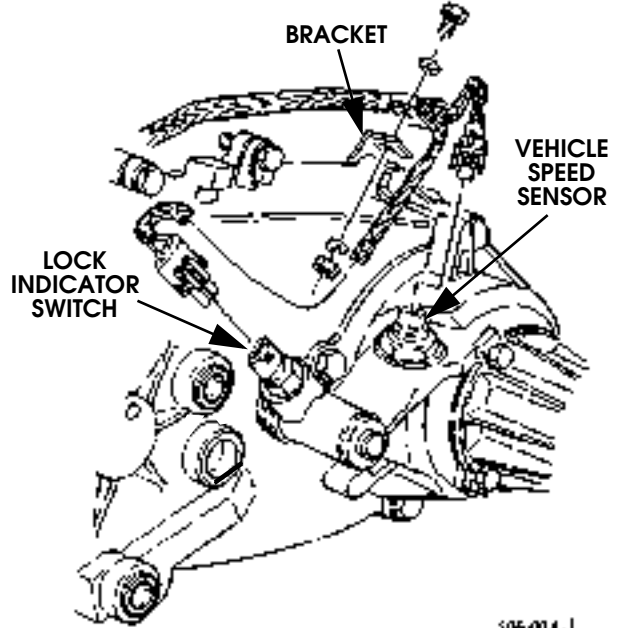
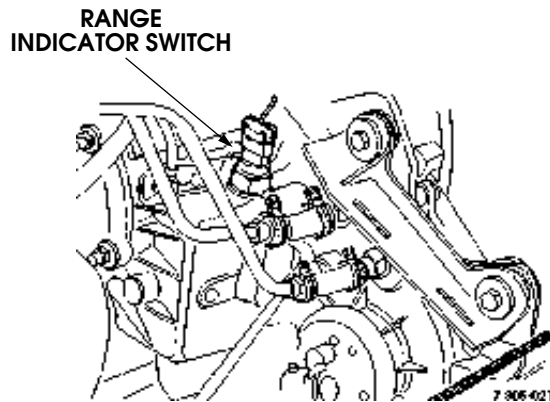

Figure 5-47: Vehicle Speed Sensor and Switch Harness Connections
Figure 5-48: Range Indicator Connection
5. Disconnect speed sensor and lock indicator switch wires at rear of transfer case (Figure 5-47). Then disconnect range switch at front of transfer case (Figure 5-48).